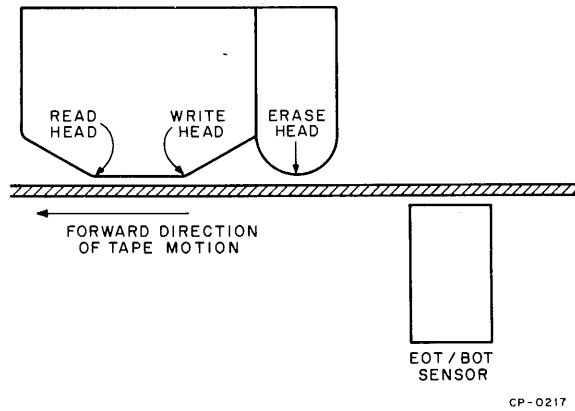

Figure 4-7 Head and EOT/BOT Sensor Positions
**4.1.3.6 Forward BOT Delay** – As shown in Figure 4-7, the EOT/BOT sensor is located some distance ahead of the read/write head on the tape path. Thus, when the tape is stopped with the BOT marker at the EOT/BOT sensor, the BOT marker is still some distance before the read and write heads. Because the industry-standard tape format requires that the first record be written at least 3 in. past the trailing edge of the BOT markers, all DEC magnetic tape controls must wait a specified length of time between initiating forward motion in the tape unit and commencing data transfers when starting an operation from BOT. This time period must be long enough to move the BOT marker past the write head and 3 in. beyond it.